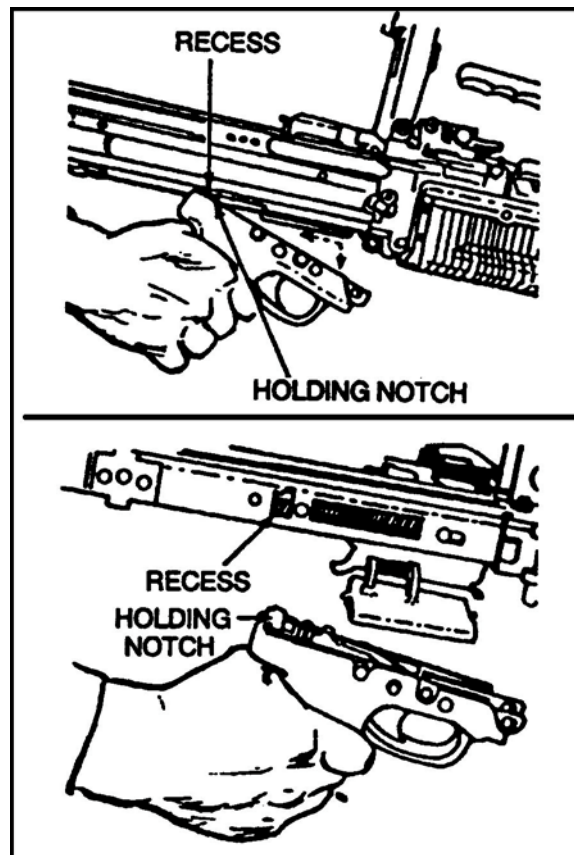

Figure 8. Trigger mechanism group.
- (1) Slide the trigger mechanism slightly forward.
- (2) Rotate the front of the trigger mechanism housing down.
- (3) Remove the trigger mechanism (Figure 8).